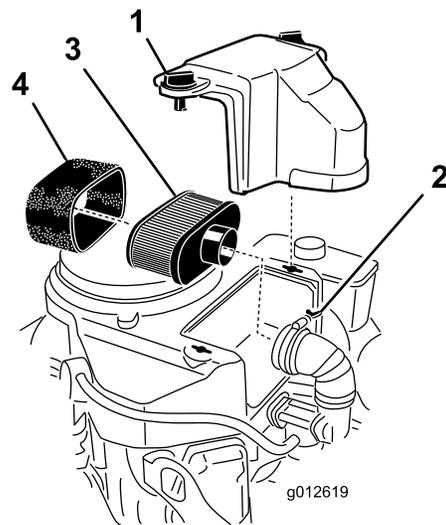

Figure 30
3. Clean the area around the air cleaner to prevent dirt from entering the engine and causing damage (Figure 30).
4. Unscrew the cover knobs and remove the air-cleaner cover (Figure 30).
5. Unscrew the hose clamp and remove the air-cleaner assembly (Figure 30).
6. Carefully pull the foam element off the paper element (Figure 30).
Important: Do not clean the paper filter, replace it (Figure 30).
1. Carefully slide the foam element on to the paper air-cleaner element (Figure 30).
2. Place the air-cleaner assembly onto the air cleaner base and secure it with the 2 wing nuts (Figure 30).
3. Place the air-cleaner cover into position and tighten the cover knob (Figure 30).